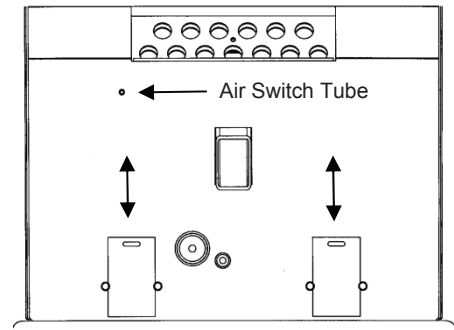

FIGURE 18
b. **Interior Chambers** - The two ash doors in the firebox in the Breckwell Big E can be removed for periodic cleaning (refer to Figure 18). These doors allow access to the chamber behind the firebox.